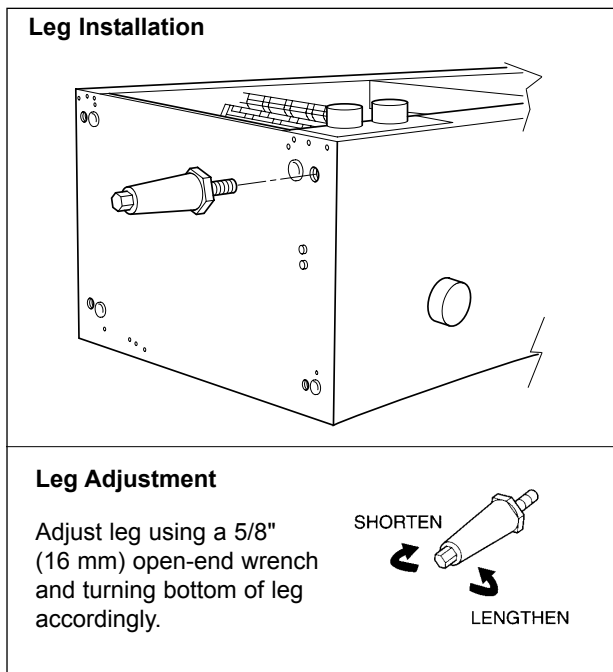

Figure 10. Adjustable Legs
- Thread the 4" (10 cm) adjustable legs into the existing leg holes on the bottom of the unit. See Figure 10.